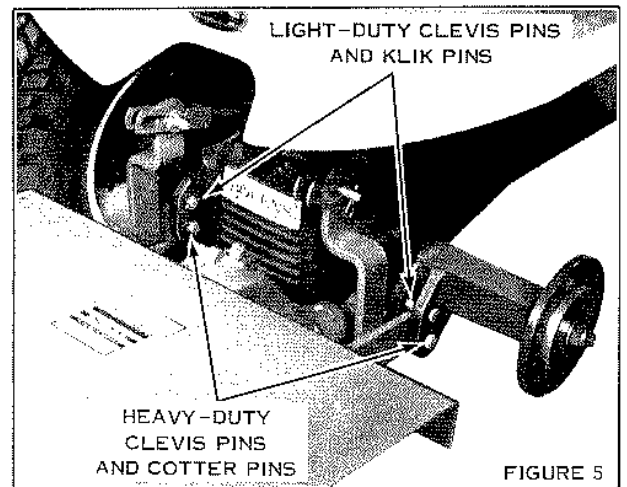

FIGURE 5
1. Insert the long heavy-duty clevis pins through the lower rear axle hitch supports from the inside out. Secure with 1/8 x 1-1/4" cotter pins provided. See Figure 5.
2. Raise tiller upward so that hook ends of tiller hitch arms are slightly above the hitch pins and lower tiller so that hook ends of hitch arms engage pins. See Figure 5.